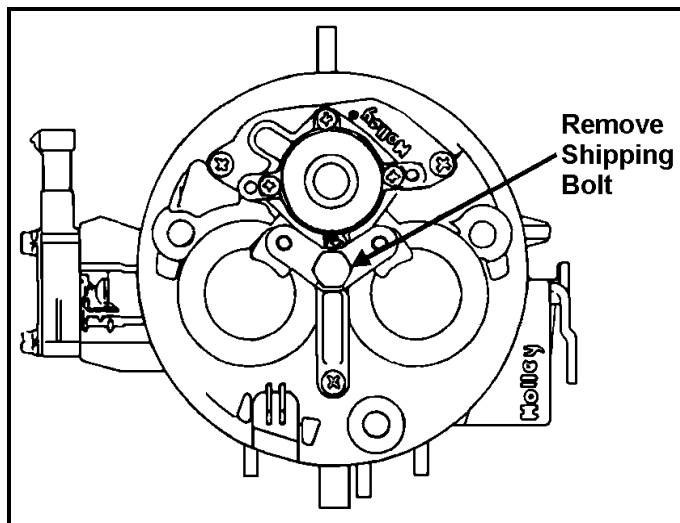

Figure 4
**NOTE:** Remove and discard the special shipping bolt as shown in Figure 4. Apply a couple drops of Loctite to the long end of the flame arrestor stud and insert into the throttle body and tighten securely. After the flame arrestor is installed it is **EXTREMELY IMPORTANT** that the flame arrestor stud does not extend any farther than 1/2 inch past the top cover of the flame arrestor, damage to the engine cover or hatch may result. Trimming may be necessary.